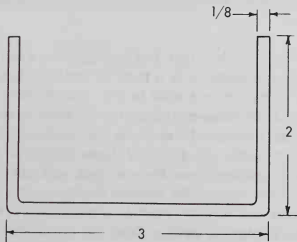

Fig. 4-55. Allow one-half the thickness of the metal for each bend.
1. Make a full-size layout of the part to be bent, so you can determine the amount of metal to allow for the bends. To make a right-angle bend, add an amount equal to one-half the thickness of the metal for each bend. For example, if you are using 1/8 in. thick material, and you are going to make two right-angle bends, add 1/8 in. to the length of material, Fig. 4-55.